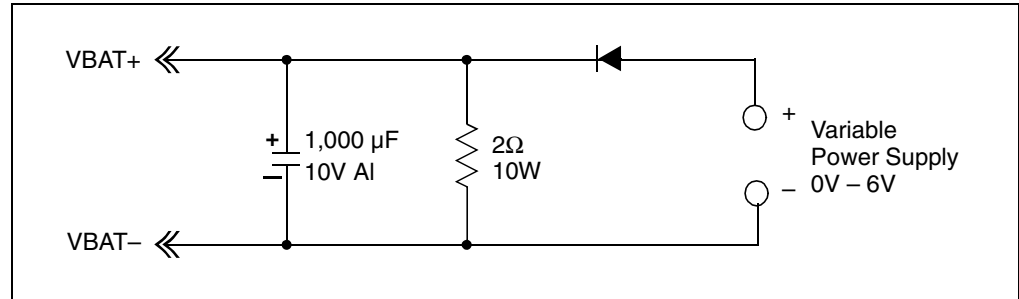

FIGURE 2-2: Simulated Battery Load.
3. The installed firmware will prevent the board from entering the Fast Charge mode if the battery terminal voltage is less than 3V. During power-up, the board will always trickle charge first, so using a purely resistive load will not work for trickle and fast-charge current. The best way to evaluate the charger is to use a single-cell Li-Ion battery pack, or the recommended simulated battery load. Refer to Figure 2-2.